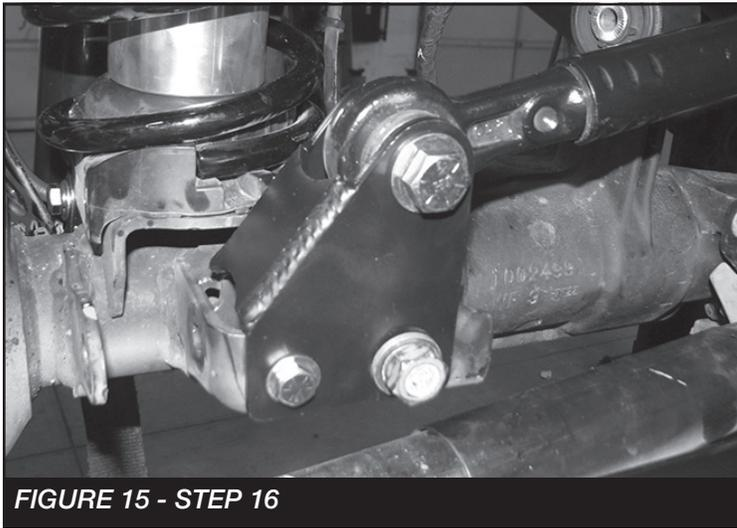

FIGURE 15 - STEP 16
16. Re-install the track bar using the supplied 9/16" X 3" bolt, nut and washers. Torque to 153 ft-lbs. **SEE FIGURE 15**